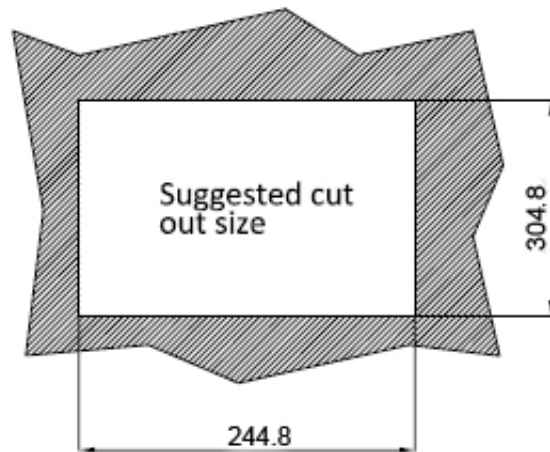
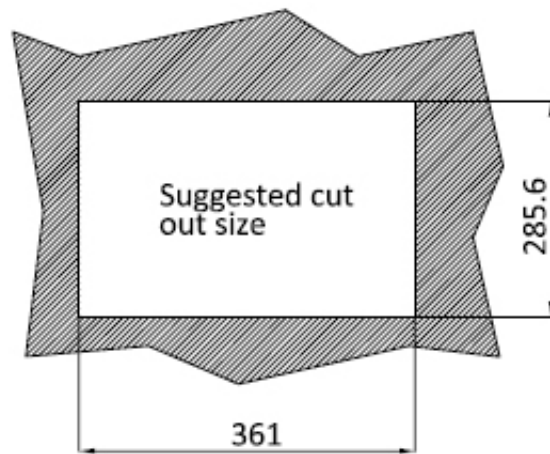
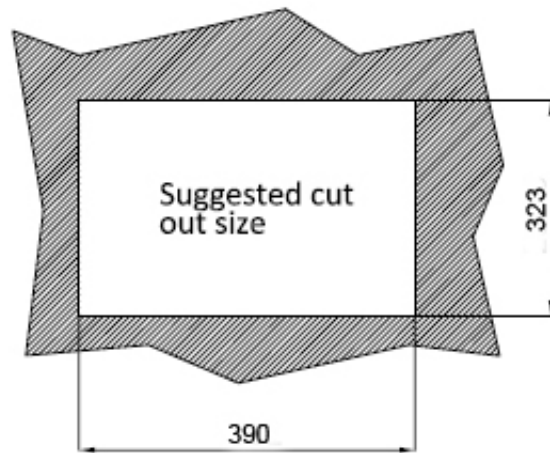
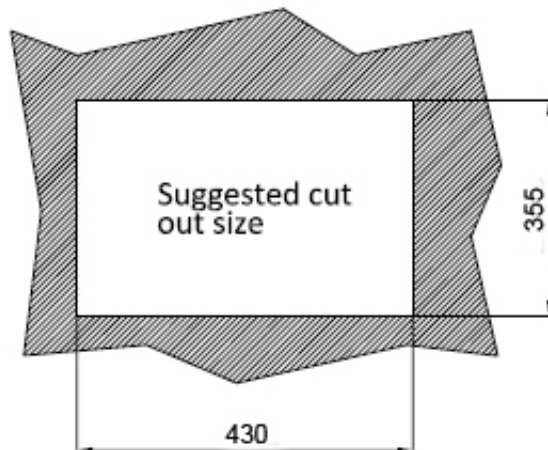

Figure 3-27: PPC-F12B-BTi Panel Cutout Dimensions
Figure 3-28: PPC-F15B-BTi Panel Cutout Dimensions
Figure 3-29: PPC-F17B-BTi Panel Cutout Dimensions
Figure 3-30: PPC-F19B-BTi Panel Cutout Dimensions
- Step 3:** Cut out a section of the panel that corresponds to the rear panel dimensions of the PPC-F12B/15B/17B/19B-BTi. The recommended cutout sizes are shown below (**Figure 3-27**, **Figure 3-28**, **Figure 3-29** and **Figure 3-30**).